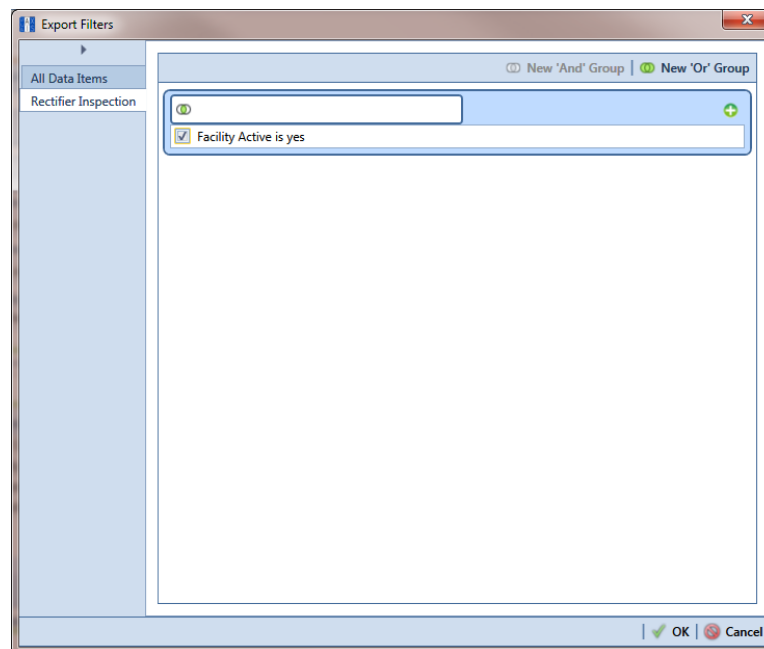

Figure 10-41. Export Filters
- Click the tab **All Data Items**. Click the check box for each filter you want to apply to *all* data items in the Bridge definition (Figure 10-41).